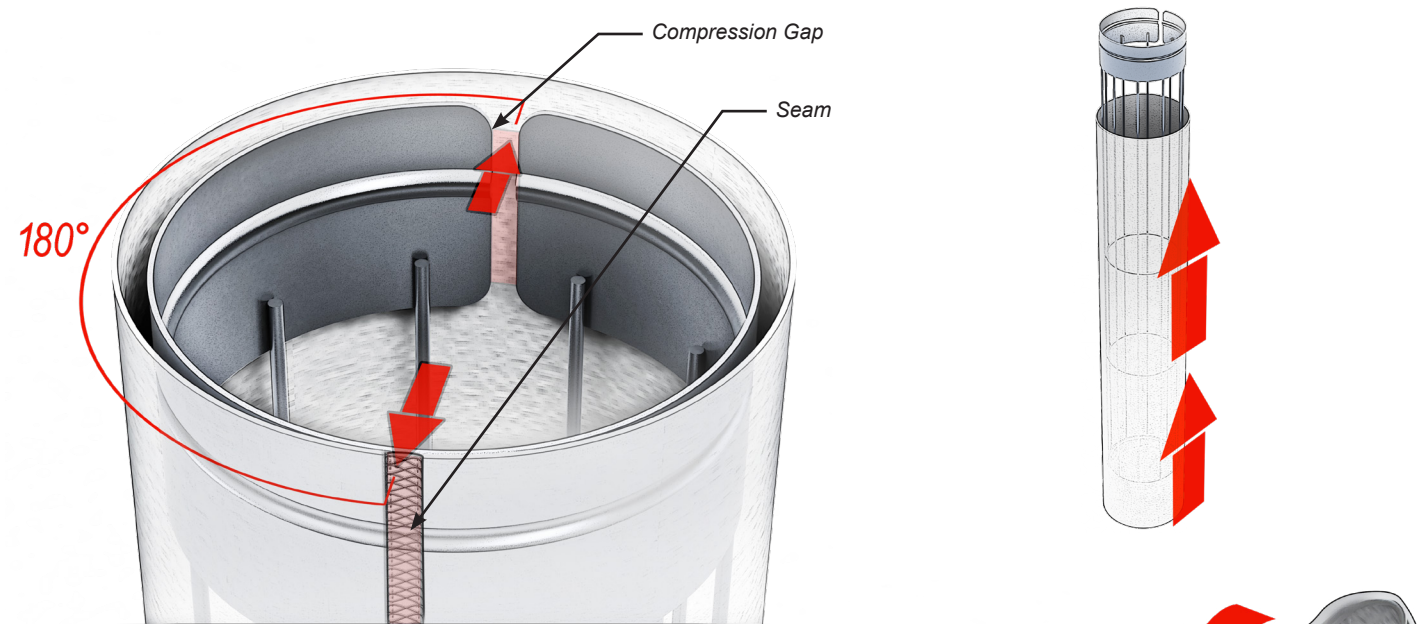

FIGURE 7
1. Slip the filter bag over the wire cage retainer until the bottom of the bag is in contact with the bottom of the retainer. The filter media seam should be located 180 degrees from the gap in the retainer sleeve (see Figure 7).